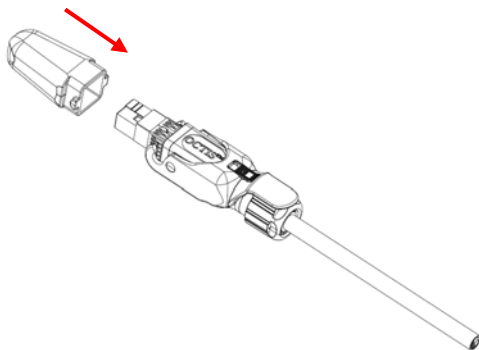
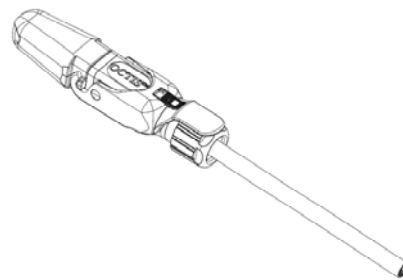

Figure 42
Figure 43
13. If necessary, use the protection cap (optional) (Fig 42 & Fig 43)